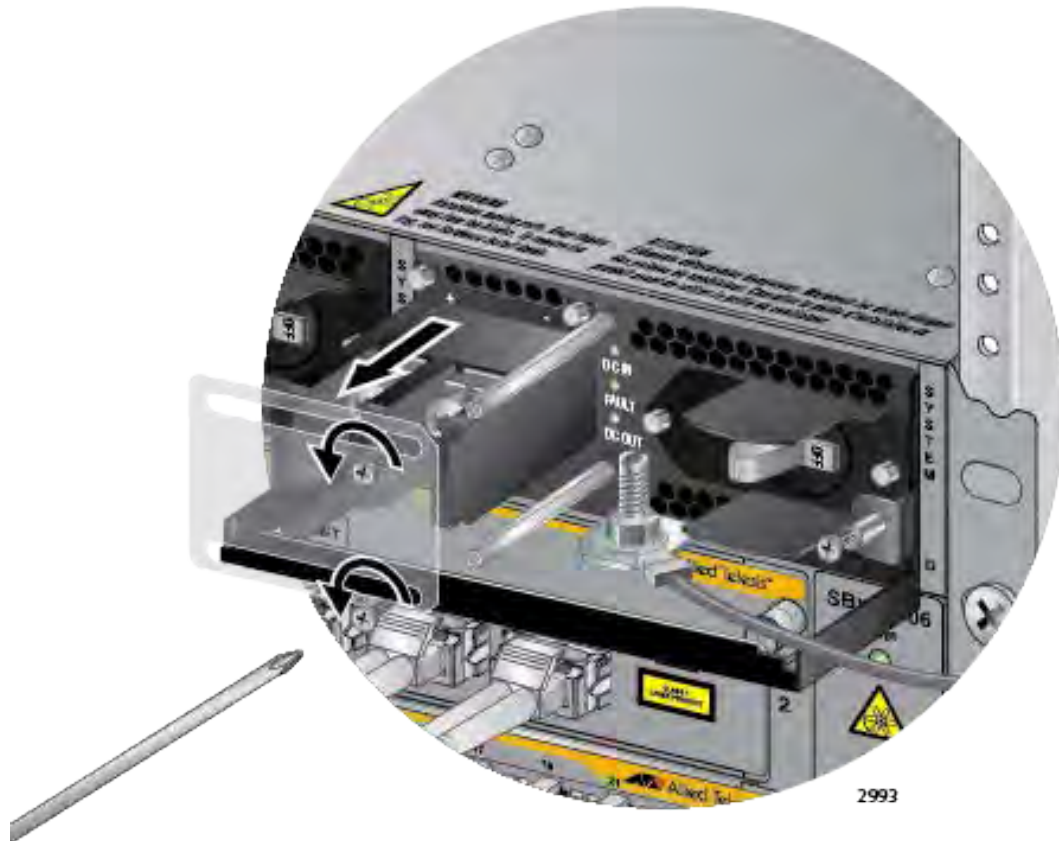

Figure 146. Removing the Plastic Cover
4. Using a #1 Phillips-head screwdriver, remove the two screws that secure the plastic cover over the positive and negative terminals and remove the plastic cover from the power supply, as shown in Figure 146. You may need to lift the locking handle slightly to access the bottom screw.